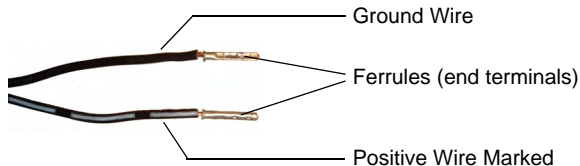

Fig. 6: Ferrules Applied to Stranded Wire
The positive wire will typically be marked with a white stripe, a colored stripe, or some similar type of marking (see Figure 6).
- If the output wires are stranded rather than solid, they must have an 8 mm (5/16") long ferrule (end terminal) applied to the end of each wire as shown in Figure 6.